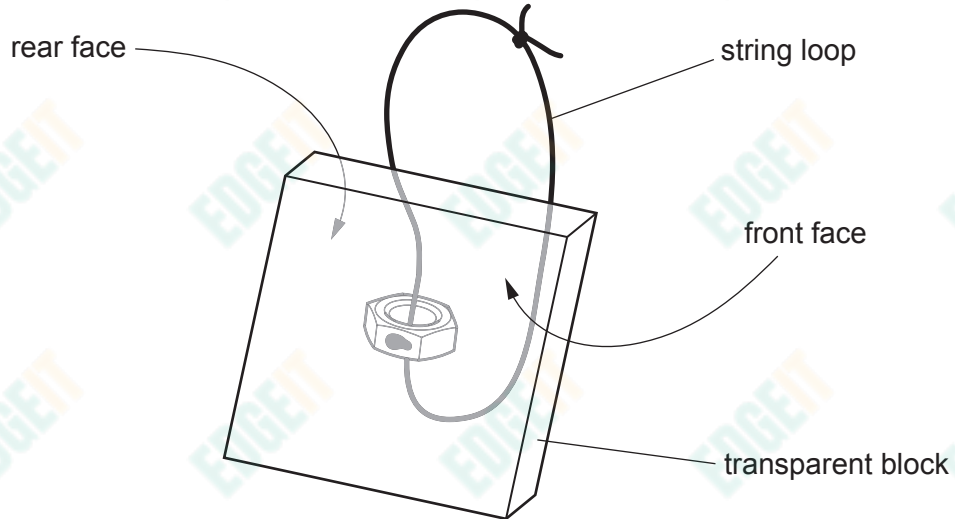

Fig. 2.1
- (a) You are provided with a block of transparent material with a string loop attached to its rear face, as shown in Fig. 2.1.